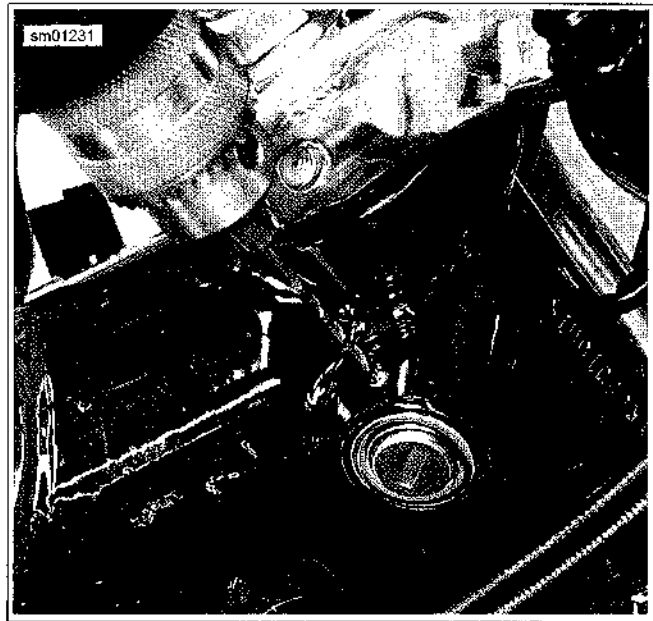
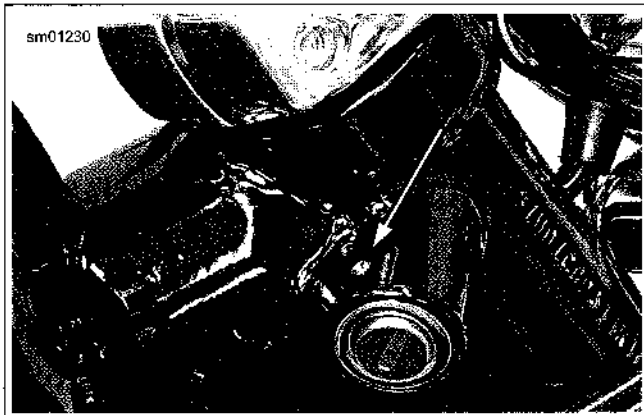

Figure 2-188. Drilling Lock Pin
Figure 2-187. Fork Lock Pin
5. See Figure 2-187. See Figure 2-188. Using a 5/64 drill bit, carefully drill a hole in center of lock pin.